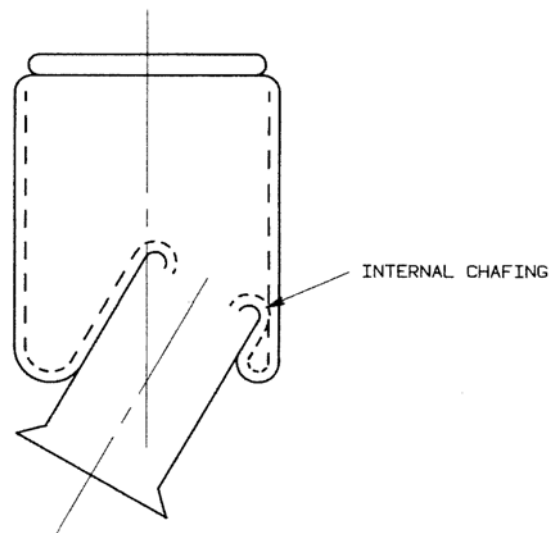

Fig. 6.1 Low pressure and internal chafing
9. Interference-Avoid situations where springs rub or nearly rub against anything. This also includes rubbing against themselves. Low operating pressures increase the chance that internal chafing may occur (see Fig. 6.1).